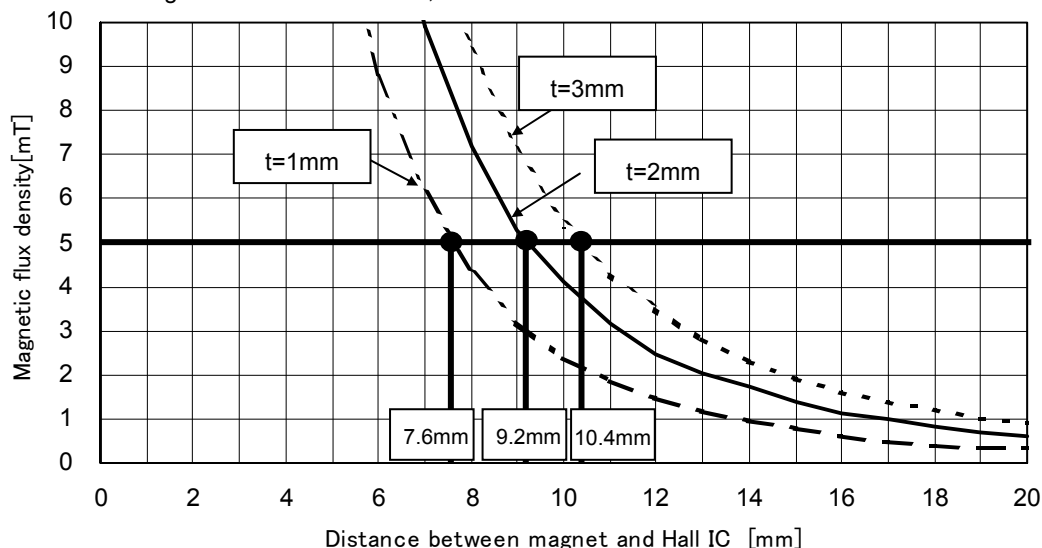

Fig.26
Of the two representative varieties of permanent magnet, neodymium generally offers greater magnetic power per volume than ferrite, thereby enabling the highest degree of miniaturization. Thus, neodymium is best suited for small equipment applications. Fig. 26 shows the relation between the size (volume) of a neodymium magnet and magnetic flux density. The graph plots the correlation between the distance (L) from three versions of a 4mm X 4mm cross-section neodymium magnet (1mm, 2mm, and 3mm thick) and magnetic flux density. Fig. 27 shows Hall IC detection distance – a good guide for determining the proper size and detection distance of the magnet. Based on the BU52014HFV operating point max 5.0 mT, the minimum detection distance for the 1mm, 2mm and 3mm magnets would be 7.6mm, 9.2mm, and 10.4mm, respectively. To increase the magnet's detection distance, either increase its thickness or sectional area.